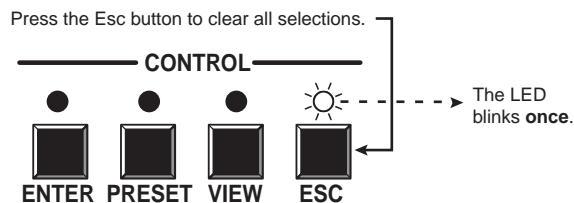

Figure 3-37 — Clear all selections
1. Press and release the Esc button (figure 3-37).